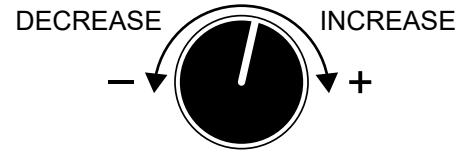

Figure 37. Voltage Regulator
- If the voltage is not within the specified tolerance, use the voltage regulator (Figure 37) to increase or decrease the desired voltage.